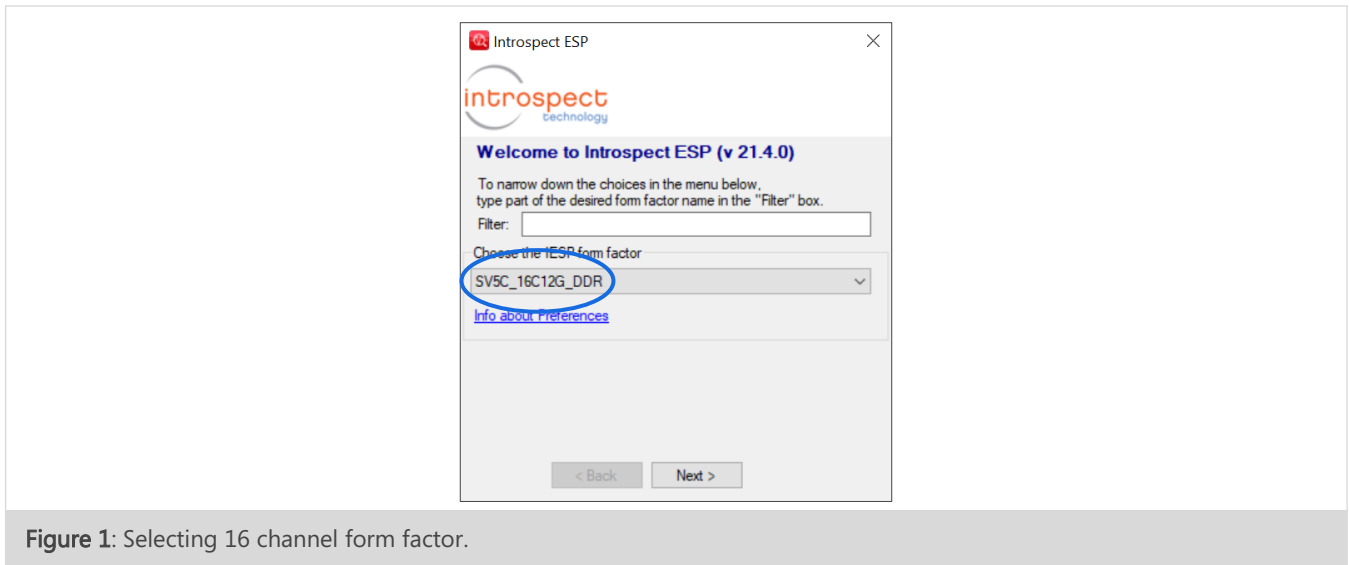

Figure 1: Selecting 16 channel form factor.
1. Open the GUI with the SV5C_16C12G_DDR form factor, as shown in Figure 1.